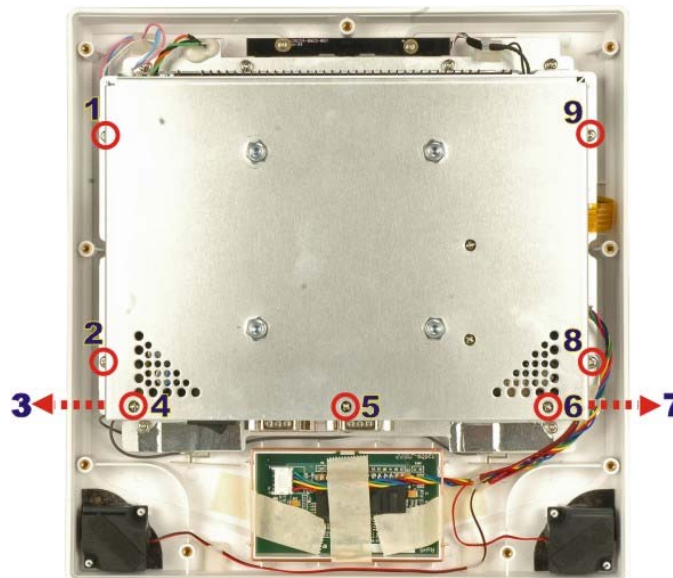

Figure 6-2: Aluminum Chassis Cover Retention Screws
Step 5: Remove the aluminum cover. The system motherboard is installed inside the aluminum chassis. Remove the nine retention screws (**Figure 6-2**) from the aluminum chassis and lift the aluminum cover off the ACT-08A-ATOM.